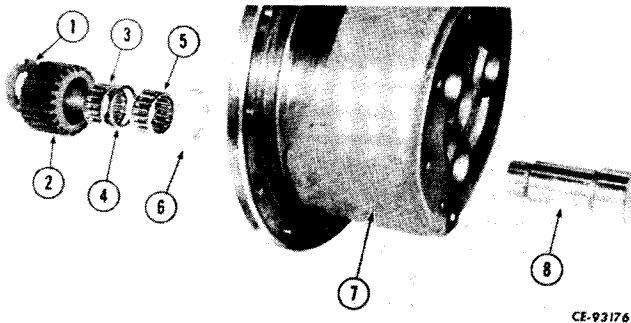

Figure 6-68
Press out planet pinion shafts (8, Fig. 6-68) from small end of shafts using a shop press. Remove thrust washers (1, 6), pinions (2), bearings (3, 5) and spacer (4).